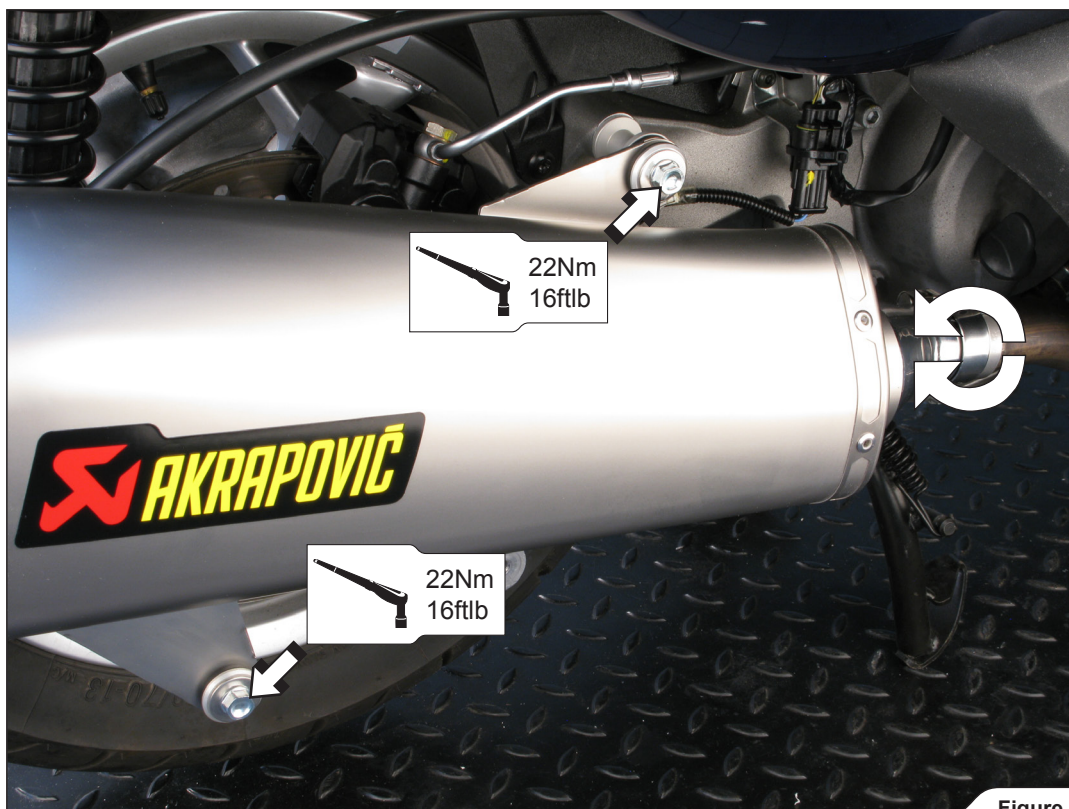

Figure 6
- Carefully slide the muffler with link pipe onto the outlet side of the stock header pipe. Rotate the link pipe inside the muffler's inlet, until the muffler's brackets align with the two stock threaded muffler's brackets. Tighten the muffler's bracket bolts to the specified torque (**Figure 6**).